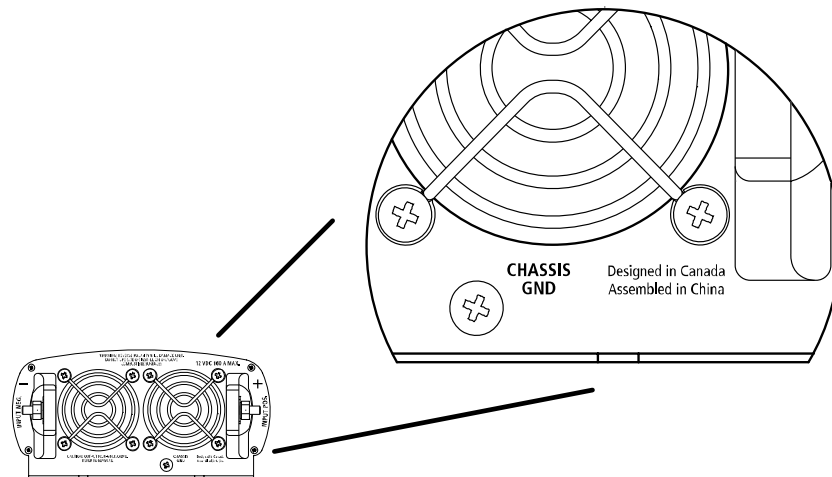

Figure 3-3 DC Panel Connections
See Figure 3-3 on page 3-12.
The XPower 1500 has a screw terminal labelled **CHASSIS GND** on the rear panel as shown in Figure 3-3. Follow the guidelines in “Grounding Locations” to connect the inverter’s chassis to the ground.
9. Install the lock washer and nut that are supplied with the inverter. Tighten the nut to a torque of **6–7 lbF-in (0.68–0.79 Nm)**. Make the connection snug enough so the ring terminal does not move around on the positive DC terminal, but do not overtighten. See Figure 3-3, "DC Panel Connections" on page 3–12.